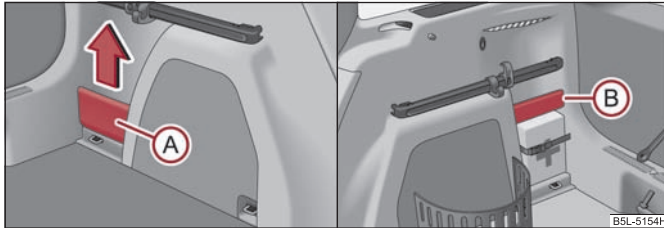

Fig. 96 Luggage compartment: Storage compartments
The removeable storage compartment (A) ⇒ fig. 96 on the left side is suitable for stowing small objects weighing up to 1.5 kg.
The storage compartment (B) ⇒ fig. 96 on the right side is suitable for stowing small objects weighing up to 0.5 kg. ■